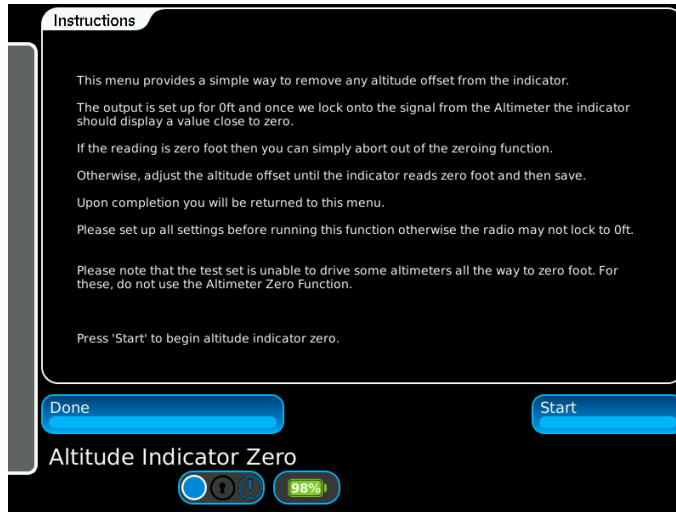

Fig. 4-14 Altitude Indicator Zero Screen
9. Select **Altitude Indicator Zero** key to display Altitude Indicator Zero screen (Fig. 4-14).